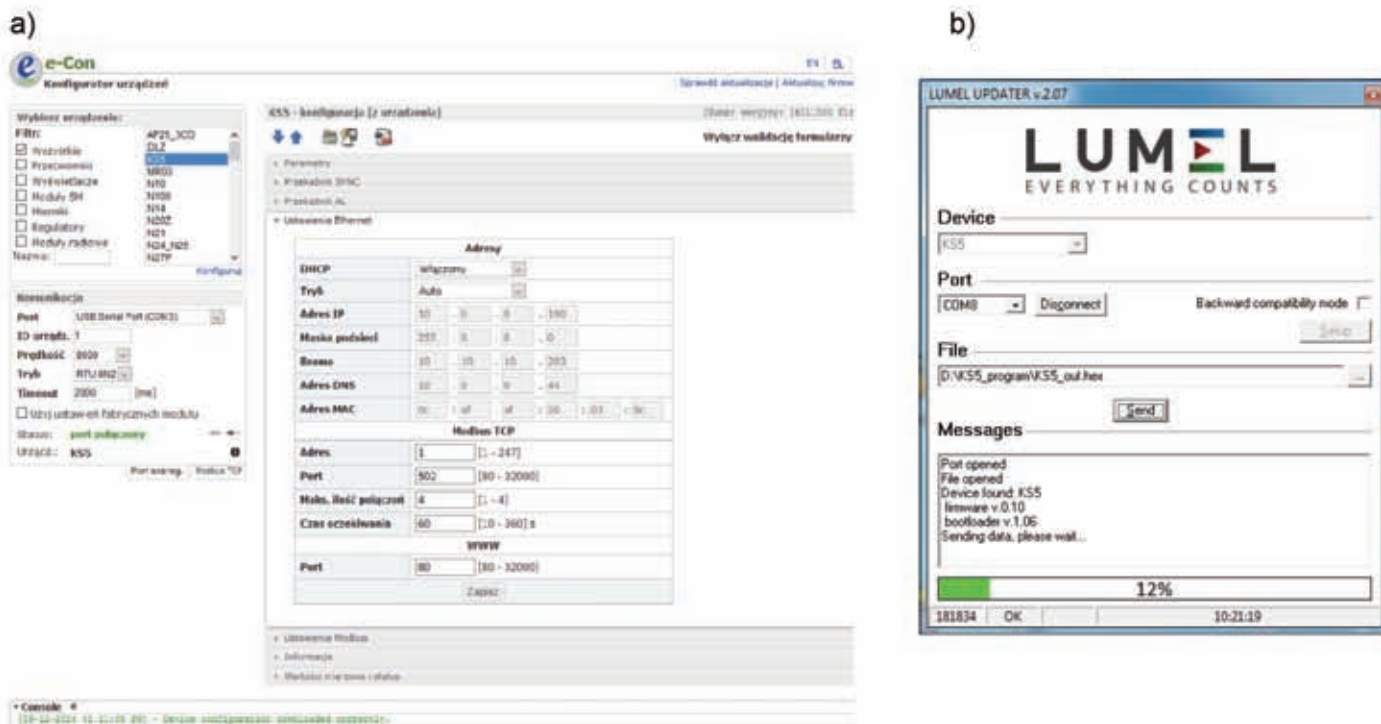

Fig.22. View of program window: a) eCon, b) firmware upgrade
After starting eCon the serial port, speed, mode and meter address should be set in the settings. Then select KS5 meter and click *Configure*. To read all the settings, click the down arrow, then the floppy icon to save the settings to a file (to restore them later). After selecting *Update firmware* (in the upper right corner of the screen) *Lumel Updater* (LU) window will open - Fig. 22 b. Press *Connect*. *Messages* information window contains info about the progress of the upgrade process. When the port is properly opened the display shows: *Port opened*. There are two ways to enter the upgrade mode: remotely through the LU (based on settings in eCon - address, mode, speed, COM port) and by turning on the meter power by pushing the button  (when entering the bootloader mode with the button, communication parameters: speed 9600, RTU8N2, address 1). The display will show boot with bootloader version, and LU program will show the message *Device found* and the name and program version of the connected device. Press the "..." button and select the meter update file. When the file is properly opened the following message is displayed *File opened*. Press *Send* button. After successful upgrade the monitor switches to normal operation, and the information window shows *Done* and the upgrade duration. After closing the LU window, go to *Service Parameters*, select *Set Meter Defaults* and press the *Restore* button. Then press the folder icon to open the previously saved settings file and press the up arrow to save the settings in the meter. The current software version can also be checked by reading the greeting messages of the